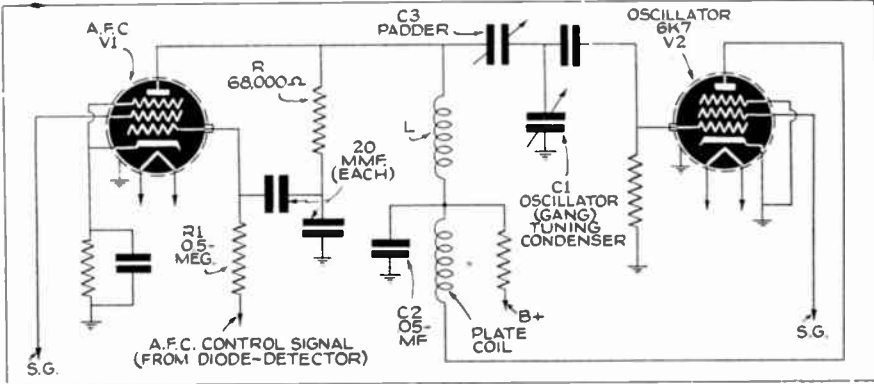

Fig. 66
(A) It can be, but it amounts to rebuilding the set, and should be done only by one who is thoroughly familiar with radio. The desired diagram is Fig. 66.